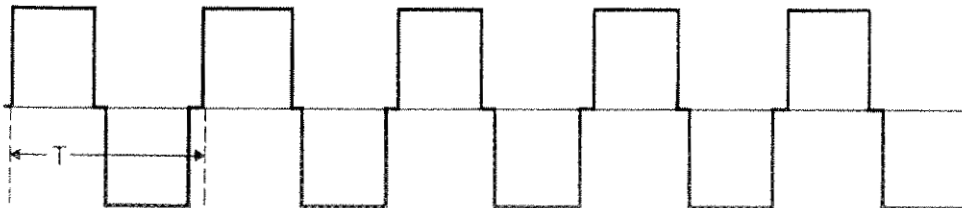

Figure 3
The Receiver Check Circuit provides at its output the waveforms shown in Figure 3. The Receiver Check Circuits can be used to check the receivers for zero stability and sensitivity. With the switch in the OFF position, V_p will be present without charge-ability. In the ON position a reactance is entered into the circuit which simulates an induced polarization effect.
10. **Frequency/Time Domain Selector Switch.** This switch is used to select the frequency domain frequency (Hz) or time domain pulse duration (sec) desired. Note that the term 'pulse duration' refers to the symbol T in the time domain diagram of Figure 3, i.e. one pulse duration = $\frac{1}{4}$ cycle.
11. **Current Stabilization Over-Range Lamp.** This lamp lights amber when the current stabilization reaches the upper or lower limit of its range and the stabilization is no longer effective. The output voltage is then automatically shut off. The Current Stabilization Switch (12) has to be set to OFF before the proper stabilized current value is reset.
13. **Output Voltage Selector Switch.** Used to control the level of the output voltage. To prevent high voltage arcing, this switch should only be turned when the output voltage is OFF. If this switch is manipulated when the output voltage is ON, the output voltage will automatically shut off and the Emergency Stop Button (17) will glow yellow. The same will occur if the switch is not properly indexed. To restore operation, the Reset Button (16) must be depressed. This will also extinguish the Emergency Stop Light.
16. **Reset Button.** This button must be pushed to reset the circuitry after plugging in the Motor-Generator Power Connector to the Alternator Input Connector(2) of the TSQ-3, an emergency stop or overload, underload, open loop or overheating conditions have occurred. It will not reset unless the Output Voltage Selector Switch is at a proper setting - i.e. low enough if the problem was overload, or high enough if the problem was underload.